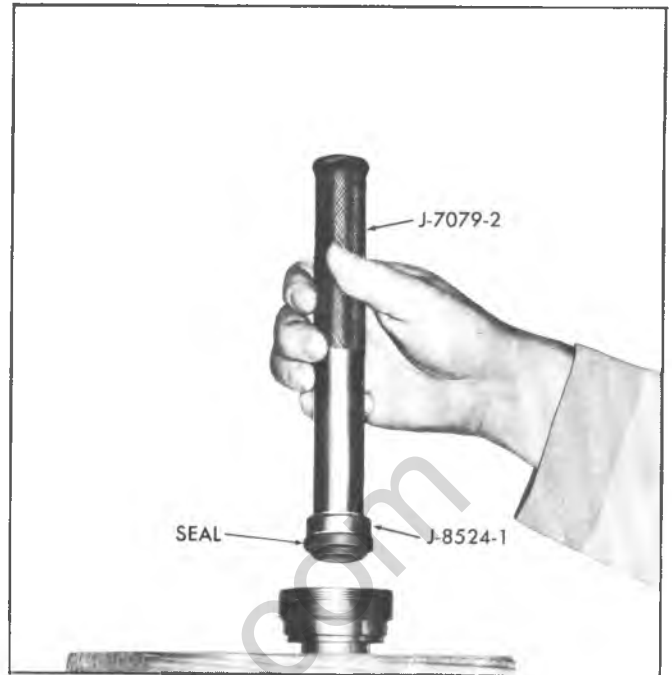

Fig. 41--Installing Adjuster Plug Seal
2. Place dust seal and a new oil seal on Tool J-8524-1 (lip of seal away from tool). Lubricate seal with Power Steering Fluid and drive or press seals into adjuster plug until seated (fig. 41).